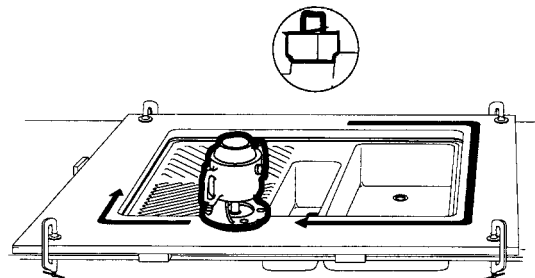

Figure 11
2. Follow step 8 under Flush-Mounting; except, before using the belt sander, use a profiler bit and a 30 mm template guide to recess the edge of the bowl (see Figure 11).